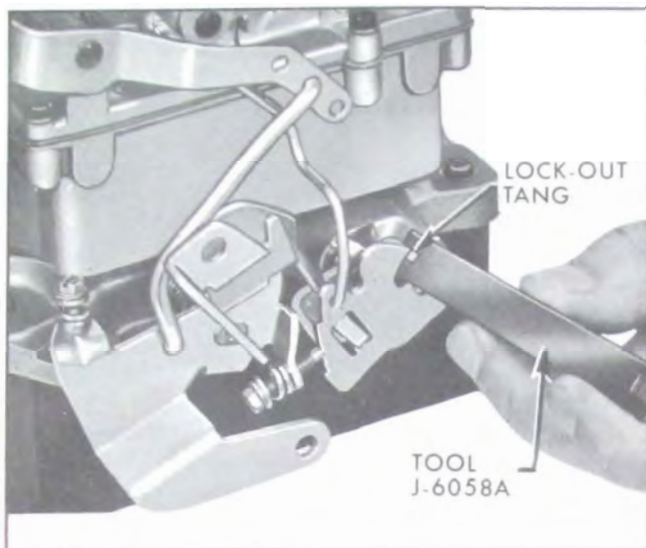

Figure 3-59—Adjusting Secondary Contour
8. If clearance between tang and contour is not correct, bend tang as required to obtain this clearance, using Tool J-6058A. See Figure 3-59.